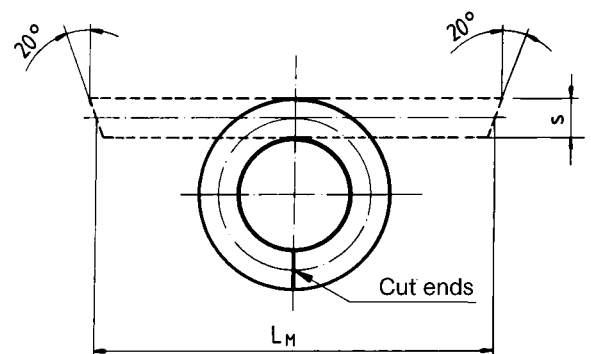

Fig. 1: Cutting to size of packing rings
**With cutting to size** we recommend a straight cut perpendicular to the shaft. In order to guarantee gap-free and parallel contact of the cut packing ring ends, the cutting angle should be approx. 20° to both cut ends (see Fig. 1).